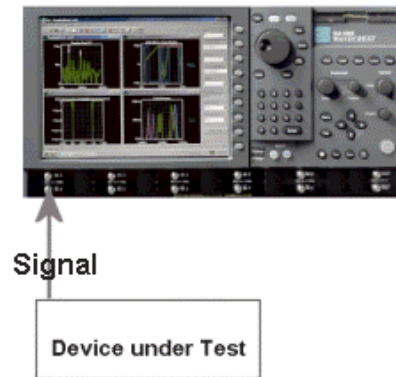

Fig. 2 SIA with signal source.
The experimental set up is shown in **Fig. 2**. For this example, the signal source is a Marconi 2041 low noise signal generator. The signal has a carrier frequency of $f_0 = 1$ GHz. The carrier is frequency modulated at $f_m = 6$ kHz with a deviation of $\Delta f = 1$ kHz.
2. Connect the signal to a measurement channel (**Fig. 2**). Set the measurement channel in VISI by going to the **Acquire Option** menu and choosing **Channel**.